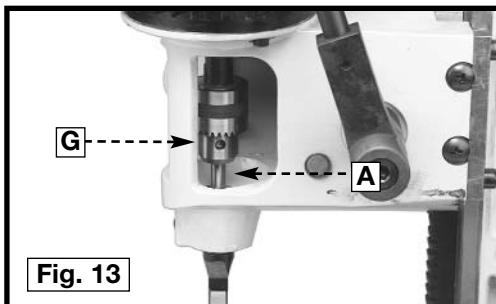

Fig. 13
3. Push the bit (A) Fig. 13 up through the chisel and into the chuck (G) as far as it will go. Lock the bit in the chuck using the supplied chuck key.